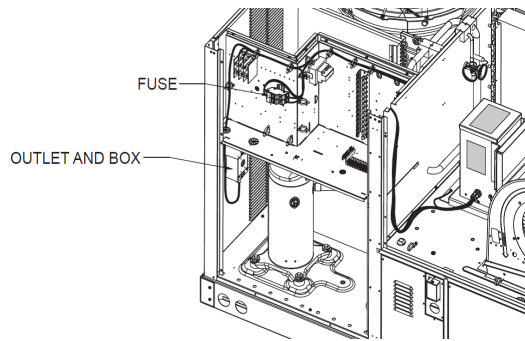

Figure 5
3. For this installation, only use wires that are suitable for outdoor conditions. Run the outlet power wires into the outlet box as shown. (Figure 5)